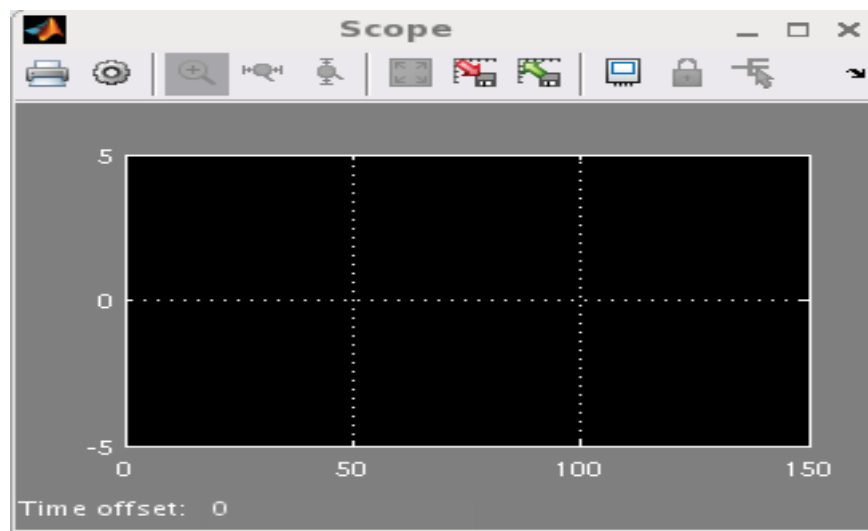

Figure 9: Scope block window.
9. The Scope block will be configured to display one period of the signal and to autoscale the y-axis so that the waveform fills the display. Double click on the Scope block icon in the Model window to open the Scope block window as shown in Figure 9.